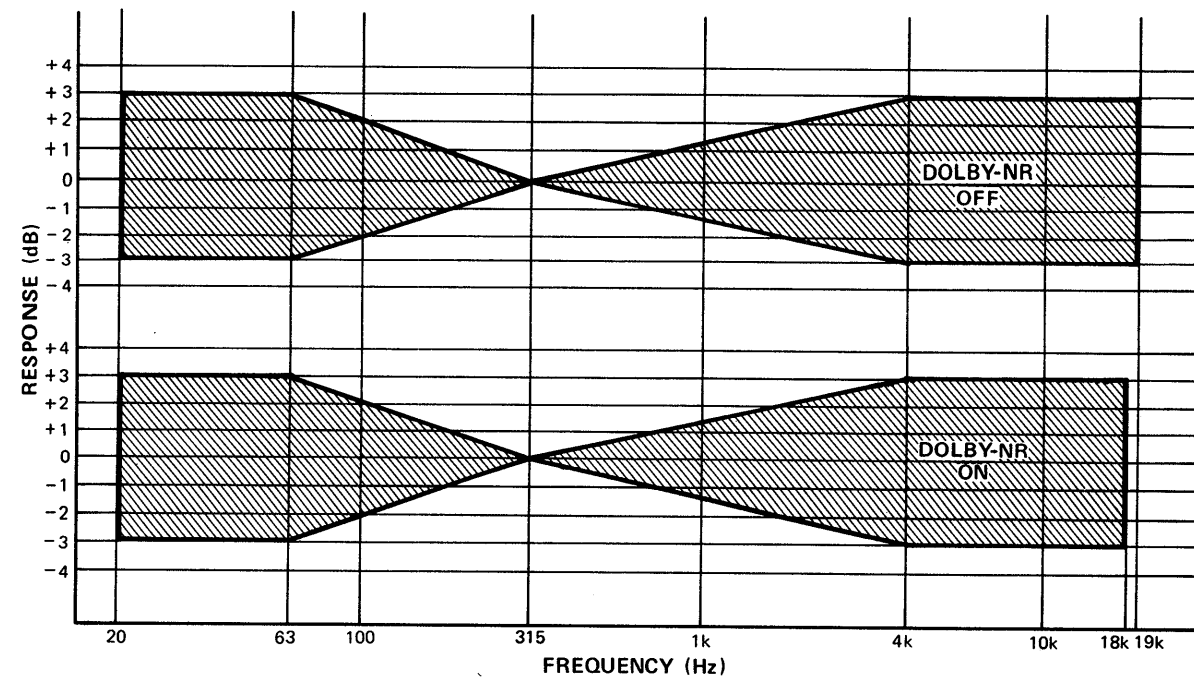

Fig. 5 — FeCr & CrO₂
17. If the above frequency response is not within the shaded DOLBY-NR OFF area of Fig. 5, adjust VR305 (left) and VR306 (right) slightly. Repeat steps 15 and 16 until playback frequency response on the V.T.V.M. 2 is adjusted within the DOLBY-NR OFF range as shown in Fig. 5.
18. Set Dolby NR switch to ON position and check if frequency response is within range of DOLBY-NR ON section of Fig. 5, if not repeat DOLBY-NR OFF procedures.
22. If the above frequency response is not within the shaded DOLBY-NR OFF area of Fig. 5, adjust VR307 (left) and VR308 (right) slightly. Repeat steps 20 and 21 until playback frequency response on the V.T.V.M. 2 is adjusted within the DOLBY-NR OFF range as shown in Fig. 5.
23. Set Dolby NR switch to ON position and check if frequency response is within range of DOLBY-NR ON section of Fig. 5, if not repeat DOLBY-NR OFF procedures.